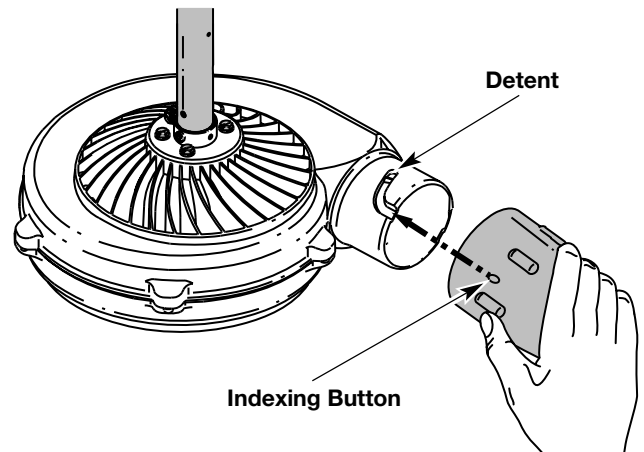

Fig. 6
1. Align the indexing button on the inside of the nozzle with the detent on the housing (Fig. 6).